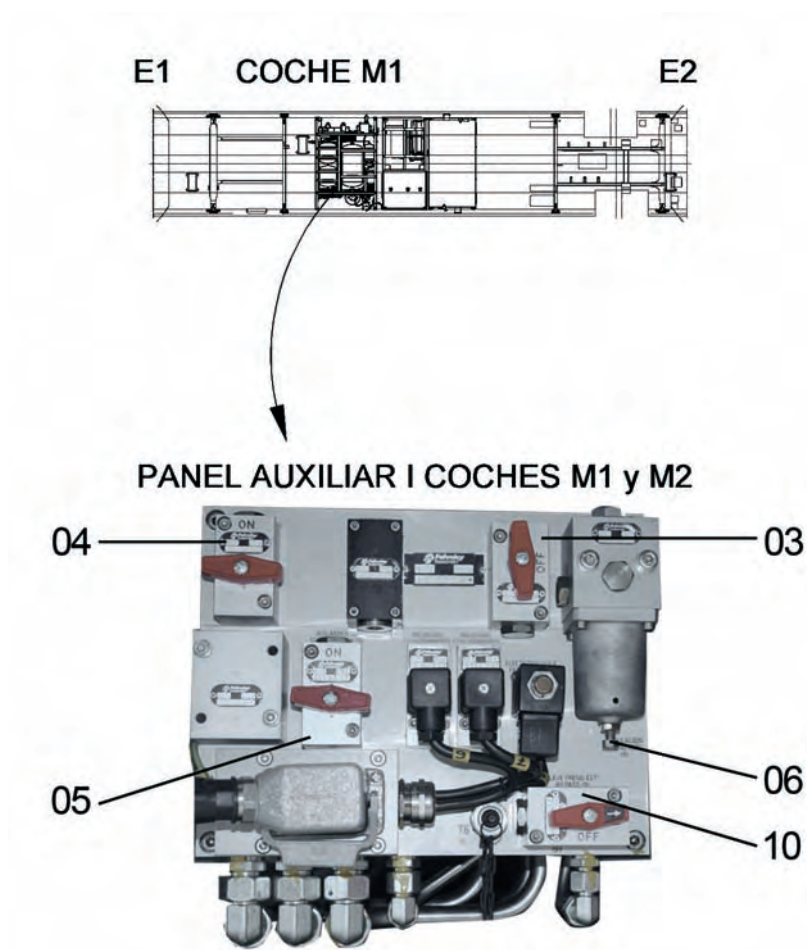

Figura 2-22. Panel auxiliar I coches M1 y M2
2.6.1.1 Panel auxiliar I coches M1 y M2 (figura 2-22)